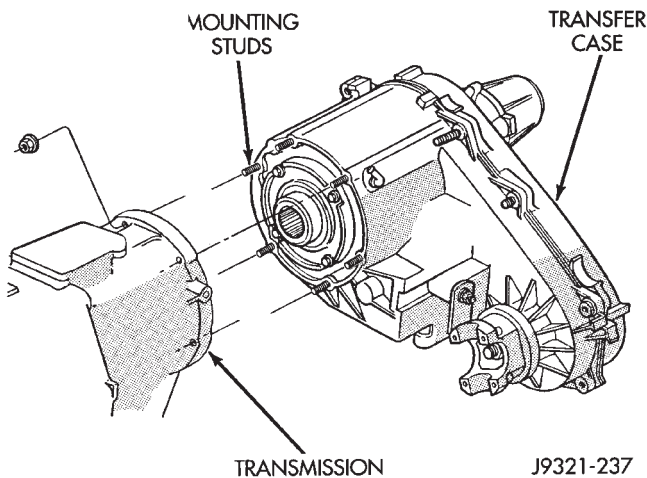

Fig. 6 Transfer Case Attachment
- (1) Mount transfer case on a transmission jack. Secure transfer case to jack with chains.
- (2) Position transfer case under vehicle.
- (3) Align transfer case and transmission shafts and install transfer case on transmission (Fig. 6).
(4) Install and tighten transfer case attaching nuts to 35 N•m (26 ft. lbs.) torque (Fig. 6).